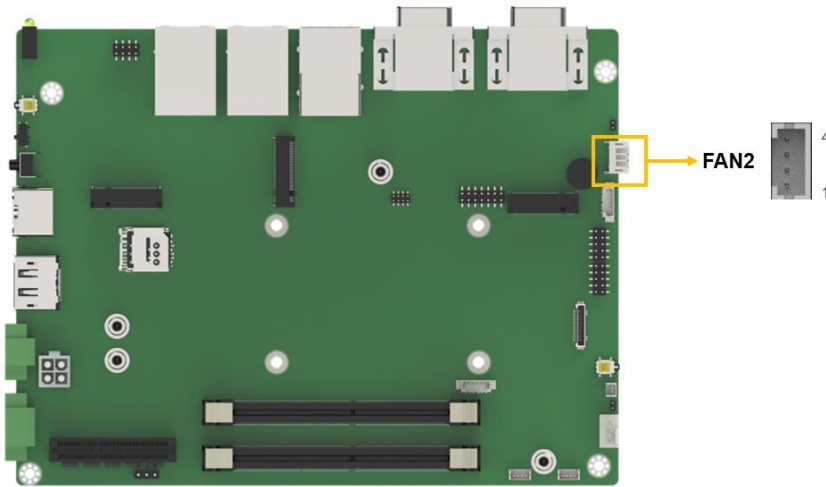

Figure 4-26: System Fan Connector Pinout Locations
- CN Location:** See **Figure 4-26**